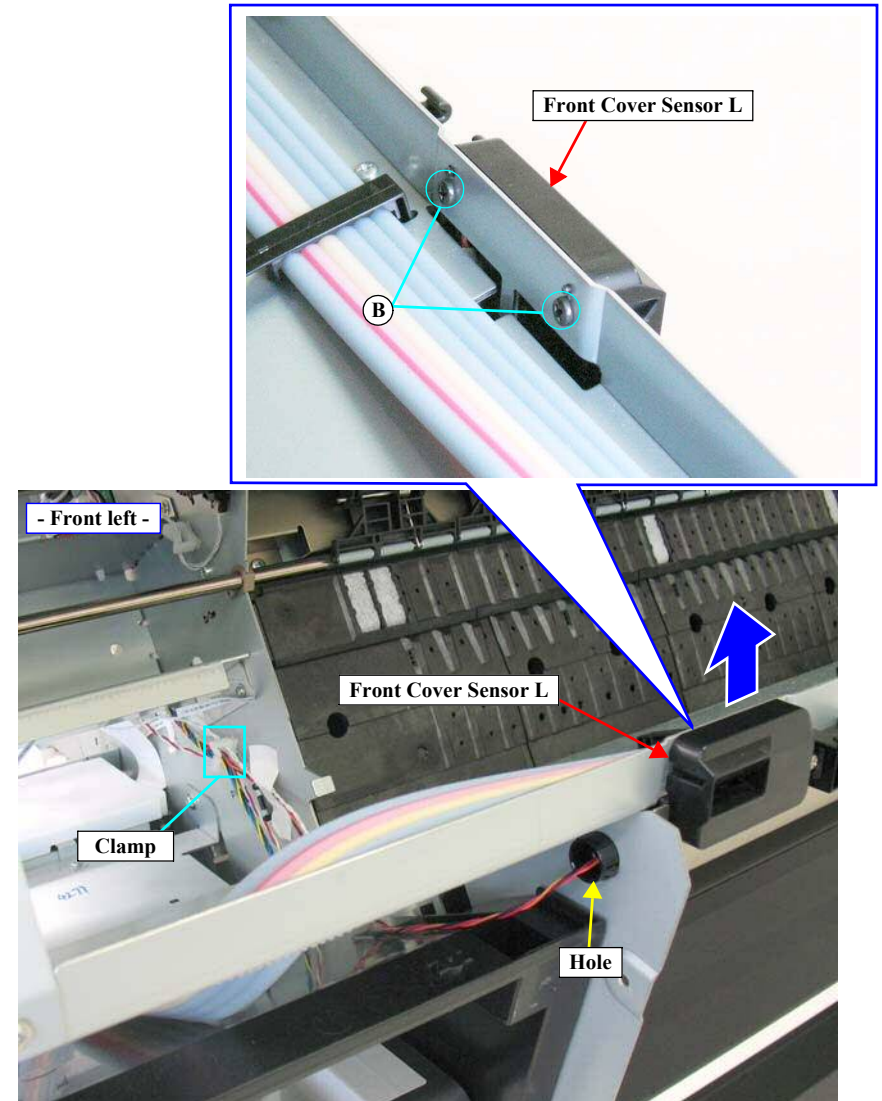

Figure 4-41. Removing the Front Cover Sensor L
10. Release the cables from the clamp. *See Figure 4-41.*